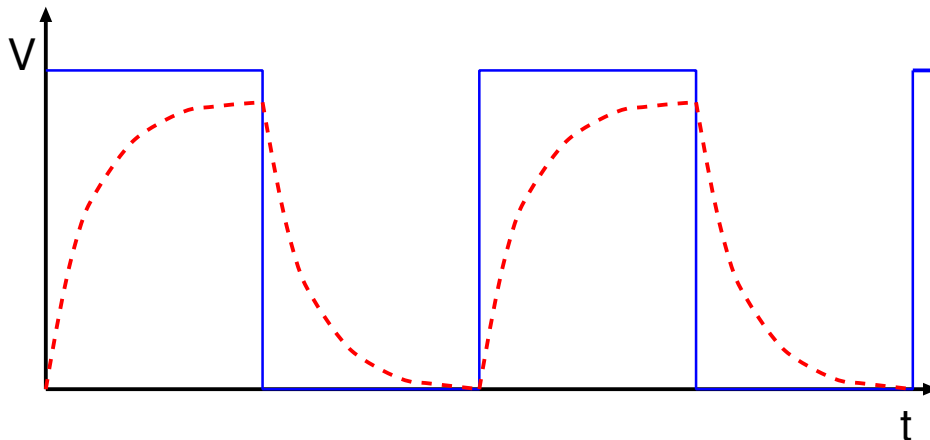

Figure 4: Square wave applied to RC circuit in blue and voltage across capacitor in dashed red vs. time.
In this part, we measure the short time constant of another RC circuit by continuously charging and discharging the capacitor. We accomplish this by connecting the RC combination to a power supply (function generator) producing a square wave voltage pattern as shown in Figure 4. During the period when the applied voltage is V , the capacitor is charging, whereas during the period when the applied voltage is $-V$, the capacitor is discharging. Since these charging and discharging processes occur very rapidly, a convenient way to study these processes is using the oscilloscope since time scales are now milliseconds rather than seconds.
- Switch on the function generator and set it to 900 Hz. Turn on the digital oscilloscope and adjust the vertical and horizontal positioning knob, the time/div scale, and the V/div scale for Channel 1 until you obtain the charging/discharging trace. Press the autoset button on the upper right of the oscilloscope if it takes you more than a few minutes to get a display. Expand the trace and adjust the amplitude of the function generators square wave amplitude so that it extends across the whole 8 divisions of the screen, only making visible one or two complete periods of the square wave. The screen on your oscilloscope should look similar to the dashed line of Figure 4.
- Monitor the voltage applied from the function generator using the oscilloscope probe and any other provided cables (via Ch 2). Use the autoset function on the oscilloscope and see if you can reproduce the display shown in Figure 4. This will require moving one of the channels vertically to align it with the other channel. The amplitudes should match. Switch to 4.0 kHz for the frequency of the function generator and note what happens to the voltage across the capacitor.